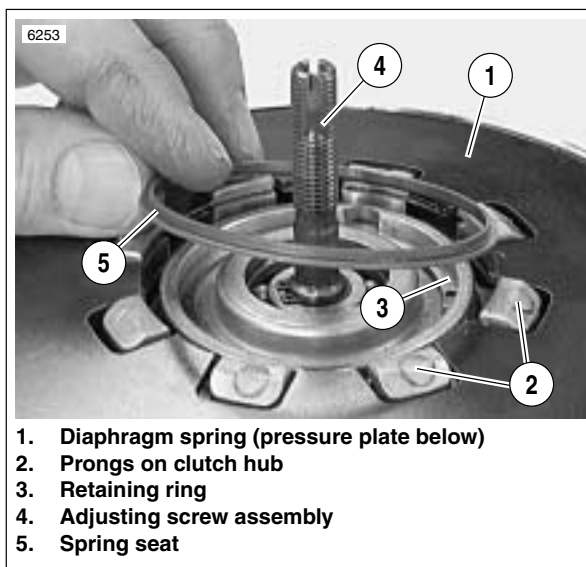

Figure 6-21. Spring Seat Installation
- a. See Figure 6-21. Align square openings of pressure plate and diaphragm spring so that the assembly can be installed over prongs on clutch hub.